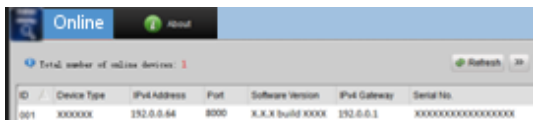

Figure 3-3 Select a Device
- 1) Select the device to be modified in the device list as shown in Figure 3-3. The network parameters of the device will be displayed in the Modify Network Parameters panel on the right side as shown in Figure 3-4.